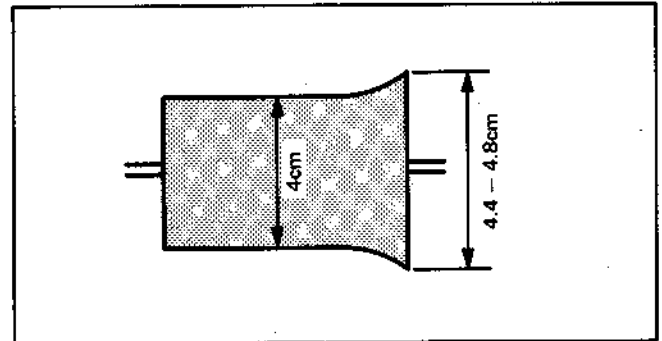

Fig. 1-19 No. 5 Guide Waveform
- 6) Turn No. 5 guide adjustment nut clockwise so that the RF output waveform is as shown in Fig. 1-19.